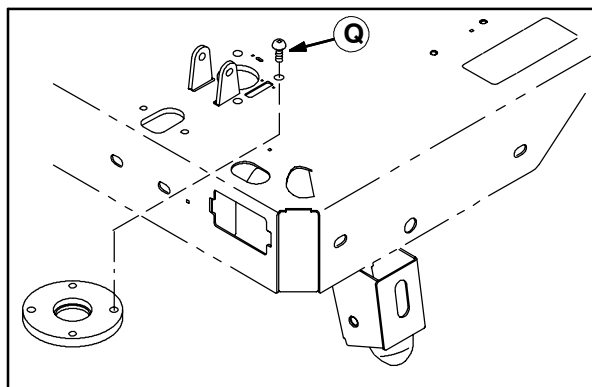

FIG. 10
15. Remove the four button screws (Q) holding the front drive assembly to the machine and carefully remove the drive assembly from under the machine. Refer to Fig. 10.